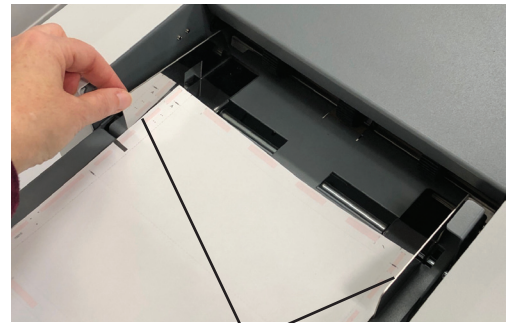

Fig. 4b
2. Set the side guides for the width of the forms. Slide each guide inward or outward to allow the forms to slide freely. (Fig. 4b)